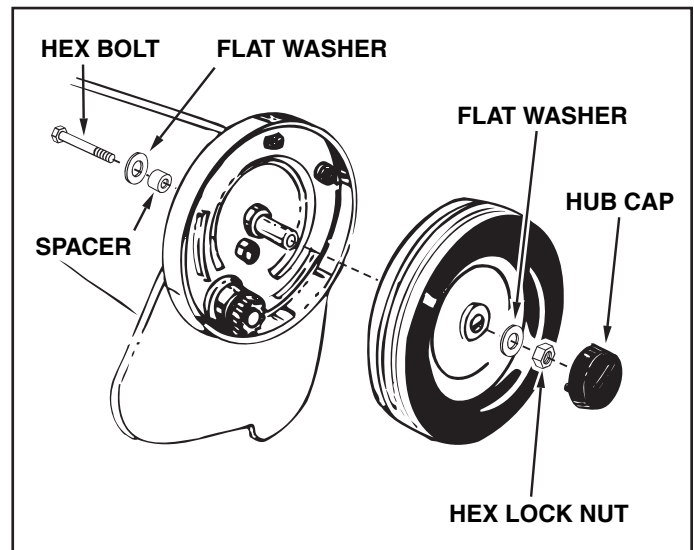

FIGURE 25
- Every two years, remove the wheels and clean the gears found inside the wheel housing. After cleaning, lubricate the gears with an even coat of light grease. To remove the wheel, pop off the hub cap and remove the lock nut and flat washer. See figure 25.